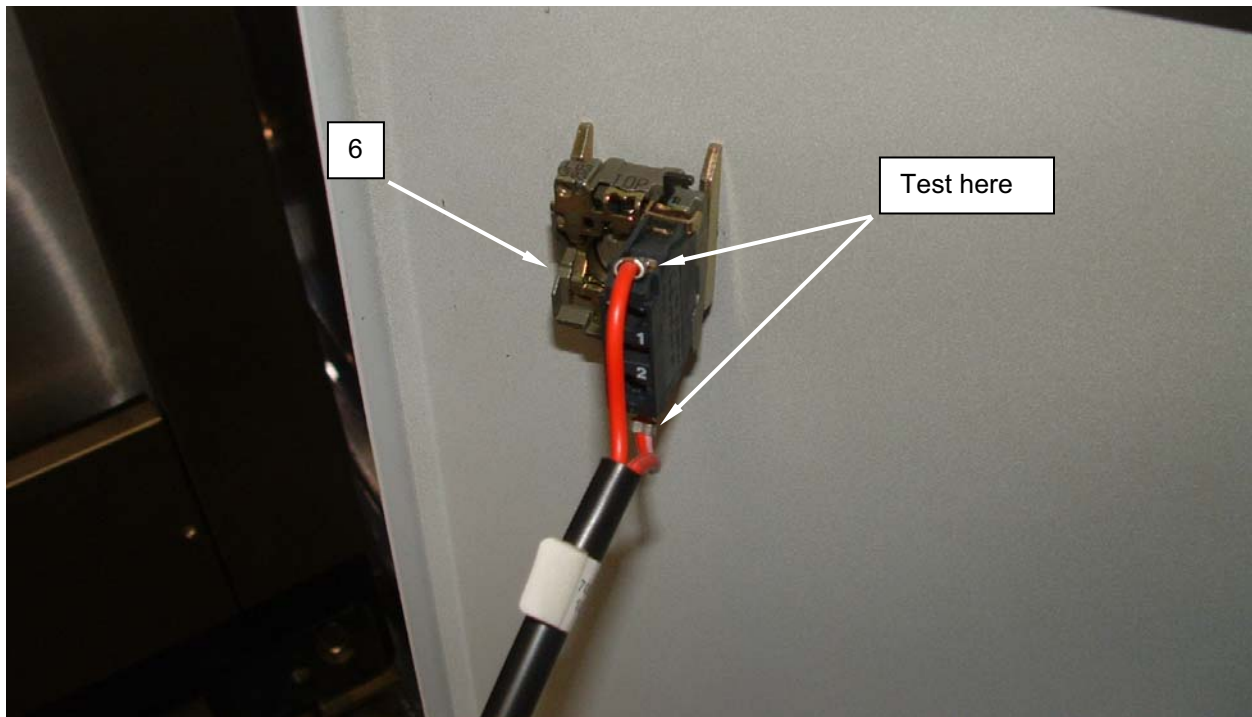

Figure 2. Test the Dryer Emergency Stop Switch.
6. Disconnect wiring from switch (**Figure 2, Item 6**).
7. Depress switch (**Figure 2, Item 6**) to open circuit, and use an ohmmeter to test for infinite resistance.
8. Reset switch (**Figure 2, Item 6**), and use an ohmmeter to test for 0 ohms resistance.
9. Replace a switch (**Figure 2, Item 6**) that fails either test.